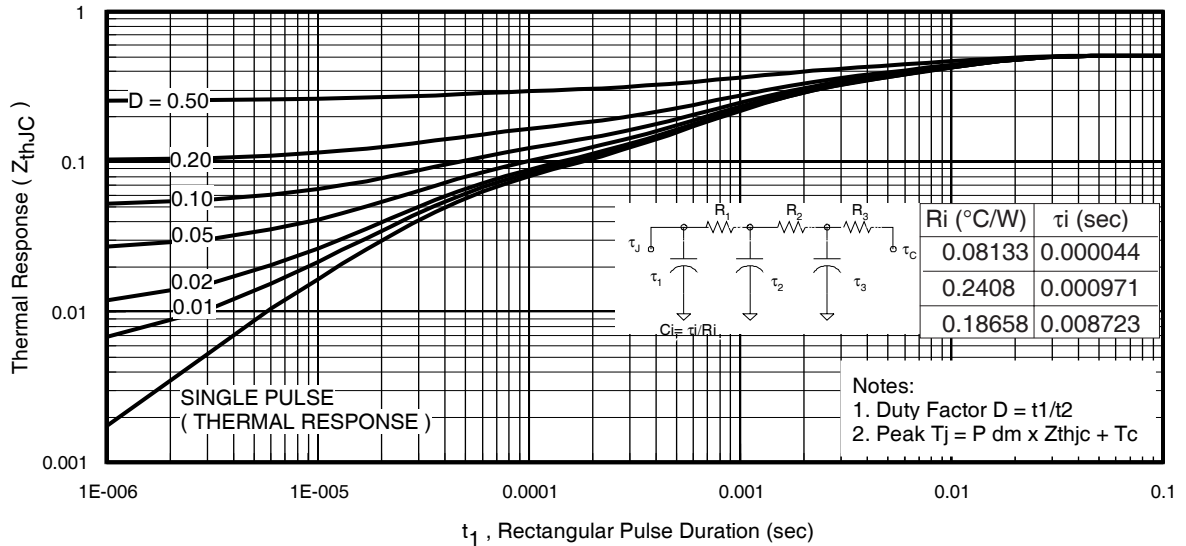

Fig 11. Maximum Effective Transient Thermal Impedance, Junction-to-Case
- ① Repetitive rating; pulse width limited by max. junction temperature. (See fig. 11).
- ② Limited by T_{Jmax} , starting $T_J = 25^\circ\text{C}, L = 0.10mH, R_G = 25\Omega, I_{AS} = 75A, V_{GS} = 10V$. Part not recommended for use above this value.
- ③ Pulse width $\leq 1.0ms$; duty cycle $\leq 2\%$.
- ④ $C_{oss\ eff.}$ is a fixed capacitance that gives the same charging time as C_{oss} while V_{DS} is rising from 0 to 80% V_{DSS} .
$Z_{thJC}(D, t_{av})$ = Transient thermal resistance, see figure 11)